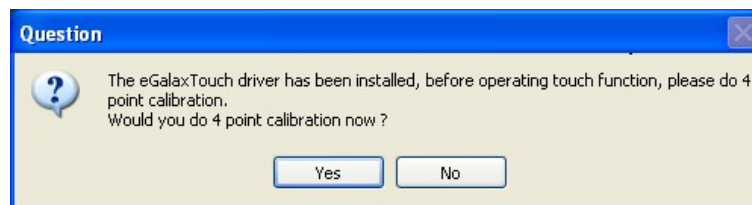

Figure 6-45: 4-Point Calibration Message
Step 13: When the installation is complete, a message appears, asking if you want to calibrate the touchscreen (**Figure 6-45**). Click **Yes** to continue.